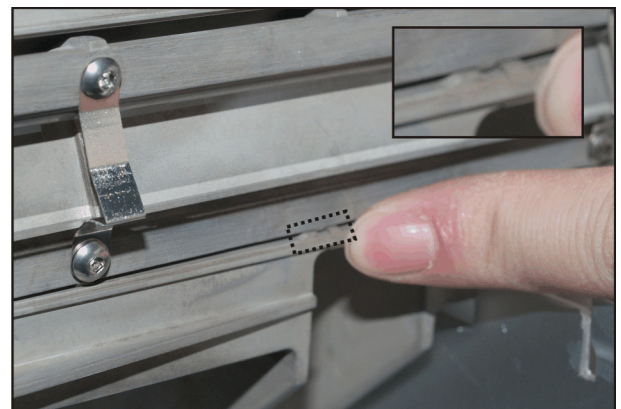

Figure 5-68 Align Integrator Rod
10. Reverse the above steps to install. Ensure the integrator rod lines up with the slots in the casing (Figure 5-68). **NOTE:** Ensure the exit face of the integrator is flush with the output aperture.